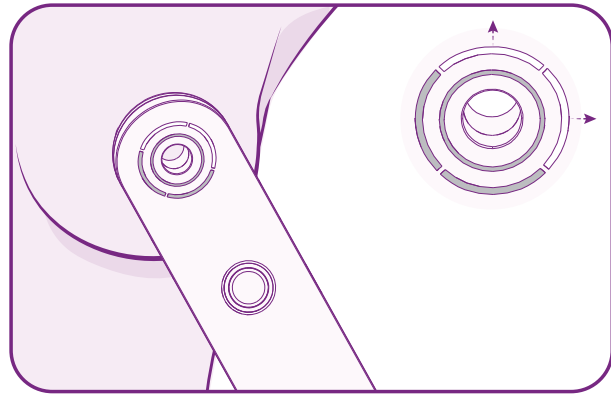

Figure 7: Locating injection port.
- White lights will turn on guiding the location of the port. (Figure 7)